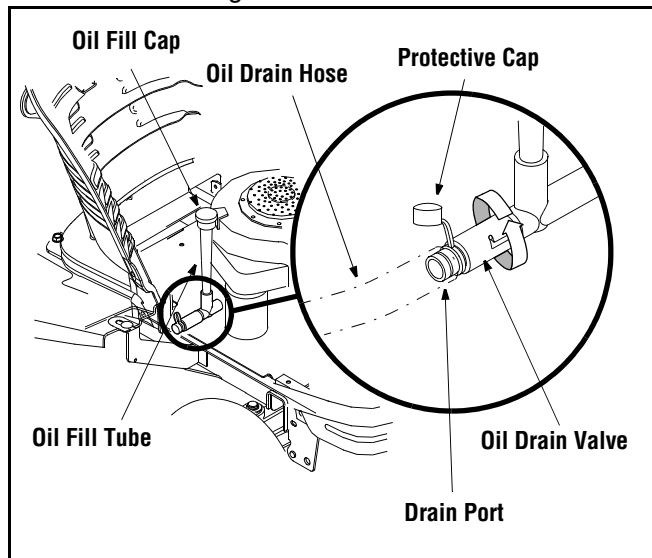

Figure 14
- Unscrew oil fill cap and remove dipstick from the oil fill tube. See Figure 14.
- Pop open the protective cap on the end of the oil drain valve to expose the drain port. See Figure 14.
- Push the oil drain valve in slightly, then rotate counterclockwise and pull outward to begin draining oil. See Figure 14.